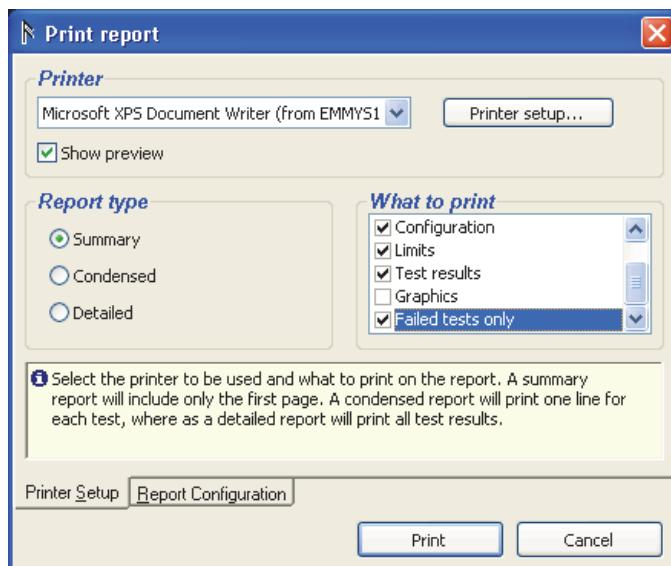

Figure 3-73. Printing Failed Tests Only
2. Click **Detailed** in the **Report type** frame and scroll down to select **Failed tests only** in the list named **What to print** as shown in Figure 3-73.